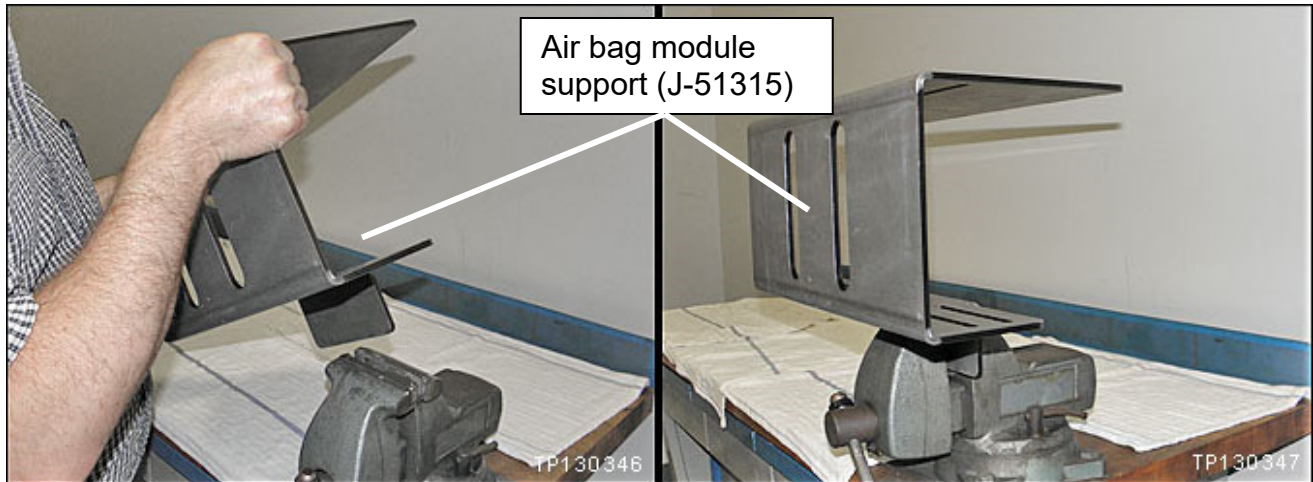

Figure 8
12. Securely mount the air bag module support (support) in a vice (see Figure 8).